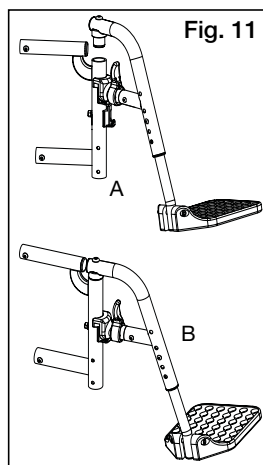

Fig. 11
- Place swing away pivot saddle into the receiver on front frame tube (Fig. 11:A).
- Rotate the footrest so that it aligns with the frame and locks into place in the latch block (Fig. 11:B).